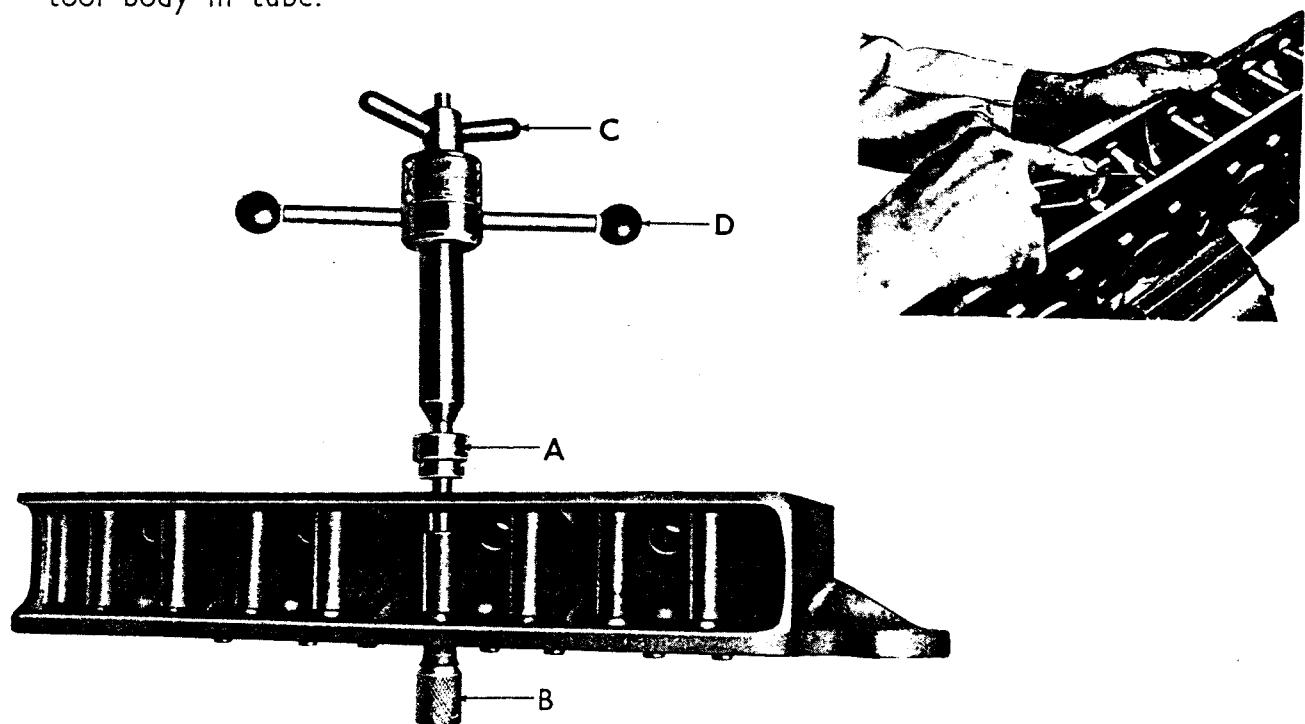

FIG. 10
1. Cut through the tube with a hacksaw. Fig. 10 inset.
Place collar A on tool shank as shown in Fig. 10.